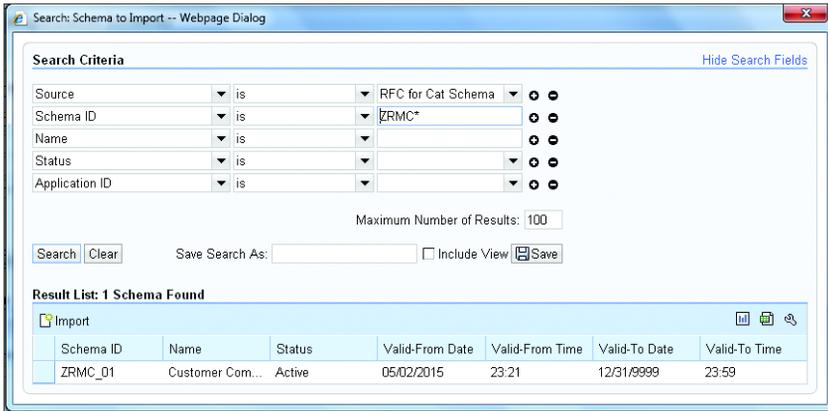

Figure 4.121 Source Selection and Categorization Schema Selection for Import
11. Select the SOURCE search criteria, and enter the RFC destination you've configured to import the categorization schema to the target system. Click the SEARCH button, and you'll see the list of the schema from the source system. Select the schema, and click on IMPORT, as shown in Figure 4.121.